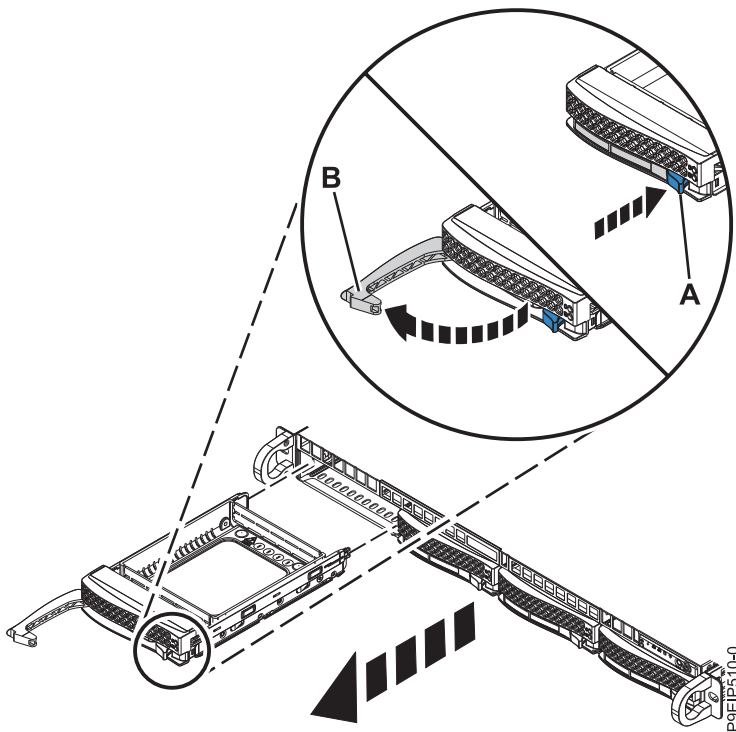

Figure 5. Removing a drive
2. Unlock the drive bay handle (B) by pushing in the handle release (A) as shown in Figure 5. The handle (B) snaps out towards you. If the handle does not snap out all the way, the drive does not slide out of the system.